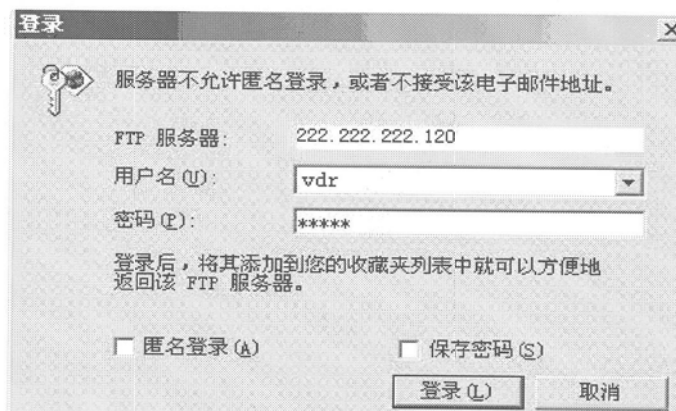

Figure 9
1) Double click "my computer", in address bar input "ftp://222.222.222.120", figure 9 will show. Input username(u) and password(p) to login DRV300, then users can manage files in DRV300.